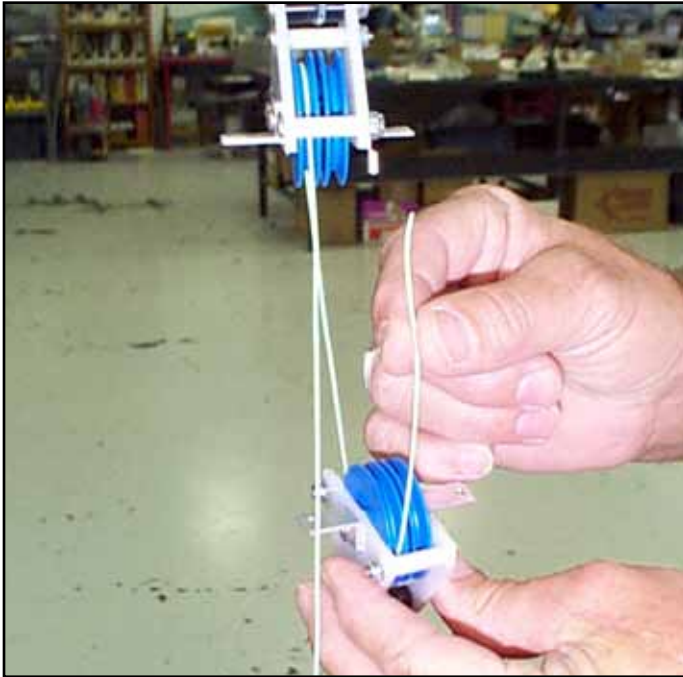

Figure 14
- c. Bring the line down to the same side of the bottom pulley; thread it under and up to the outside of the top pulley (Figure 14).